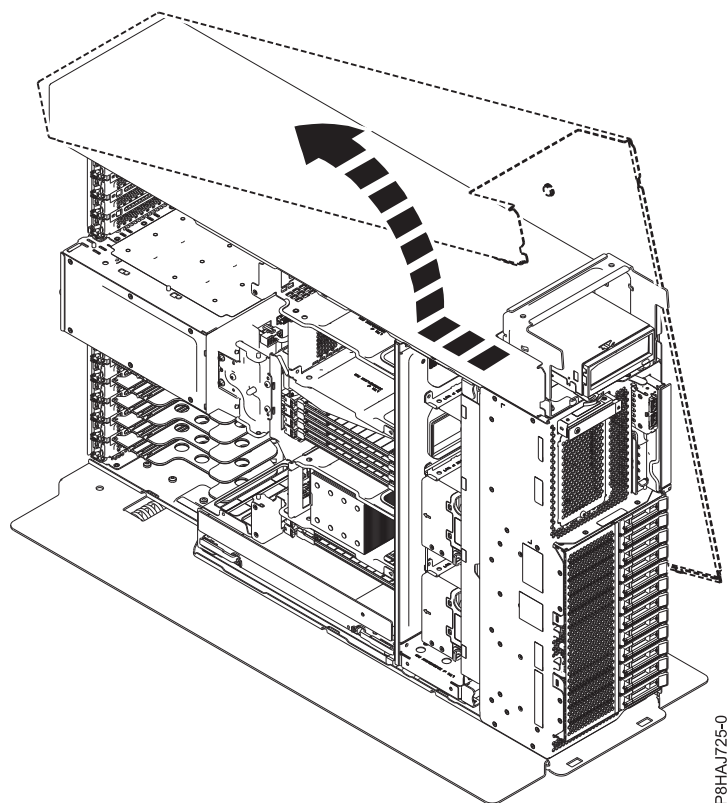

Figure 14. Removing the 8286-41A side cover
5. Slide the side cover off of the system in the direction that is shown in Figure 14 on page 36.